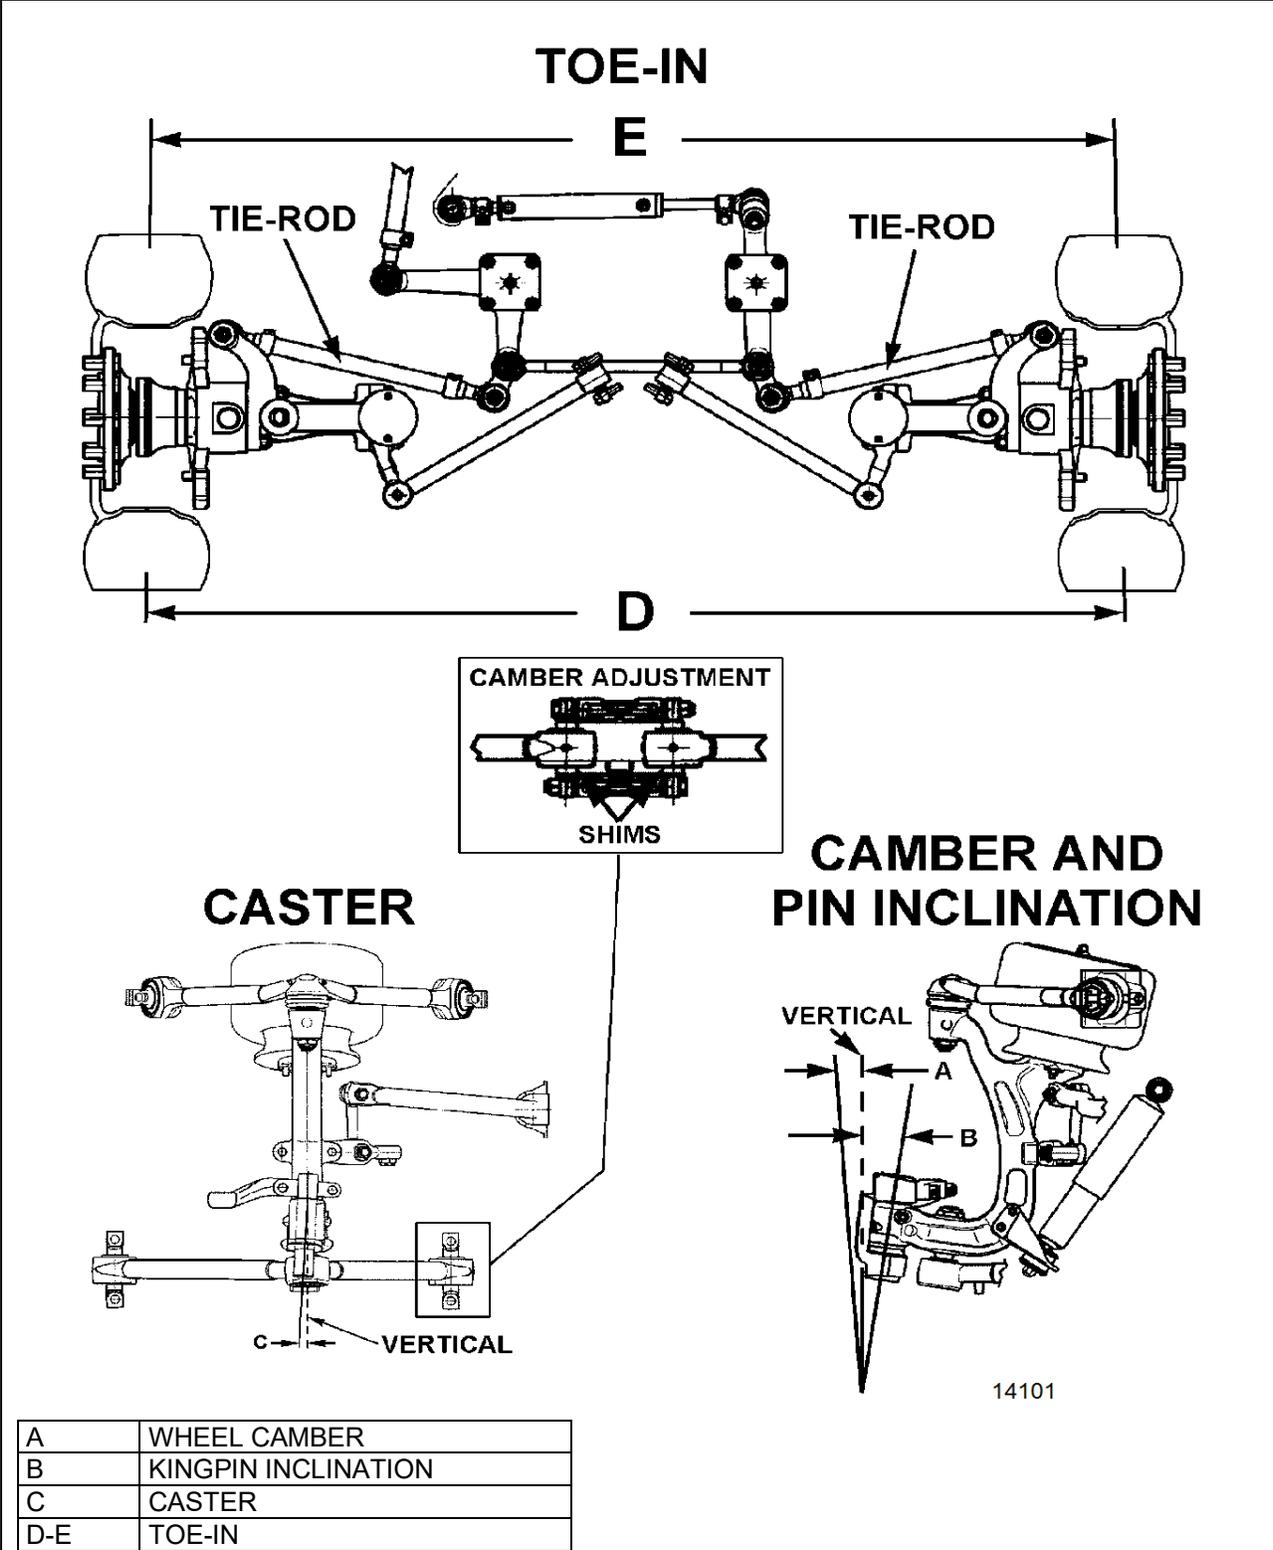

FIGURE 45: FRONT END ALIGNMENT DIAGRAM
**Kingpin Inclination:** The inclination of the kingpin from vertical toward the center of the vehicle at the top and outward at the bottom (B, Figure 45).
**Front Axle Caster:** The inclination of the kingpin from vertical in the fore and aft direction (C, Figure 45).
Caster variations may be caused by bent upper suspension A-arm, lower suspension A-arm, or kingpin housing. Caster should be adjusted with shims. Precision instruments should be used to measure caster. Shim bell crank and idler arm to adjust caster (Figure 45).